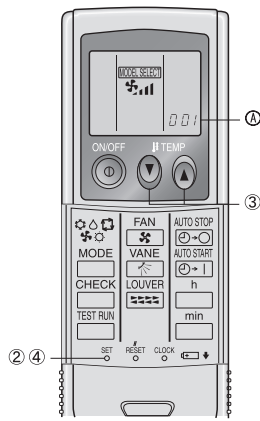

Fig. 6-7
1) Setting (Fig. 6-7)
- ① Insert batteries.
- ② Press the SET button with something sharp at the end. **MODEL SELECT** blinks and Model No. is lit.
- ③ Press the temp \uparrow \downarrow buttons to set the Model No. If you mistook the operation, press the ON/OFF Ⓞ button and operate again from procedure ②.
- ④ Press the SET button with something sharp at the end. **MODEL SELECT** and Model No. are lit for three seconds, then turned off.